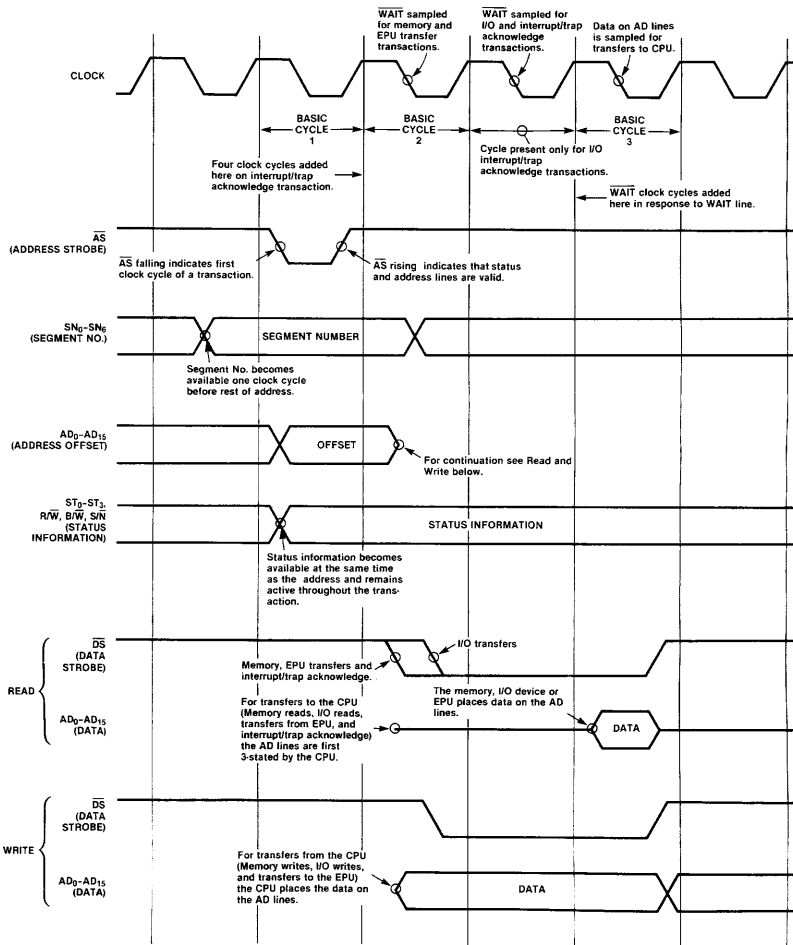

Figure 9-2. Transaction Timing
Data transfers to and from the CPU are accomplished through the use of transactions. Figure 9.2 shows the general timing for a transaction.
9.4.1 WAIT. As shown in Figure 9.2, \bar{WAIT} is sampled on a falling clock edge one cycle before data is sampled by the CPU (Read) or \bar{DS} rises (Read or Write). If \bar{WAIT} is Low, another cycle is added to the transaction before data is sampled or \bar{DS} rises. In this added cycle and all subsequent cycles added due to \bar{WAIT} being Low, \bar{WAIT} is again sampled on the falling edge and, if it is Low, another cycle is added to the transaction. In this way, the transaction can be extended to an arbitrary length to accommodate (for example) slow memories or I/O devices that are not yet ready for data transfer.